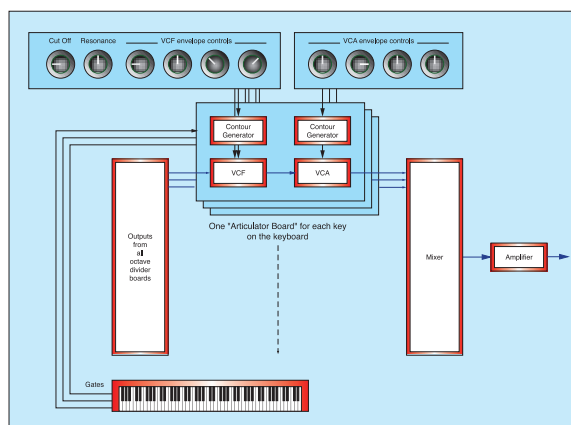

Figure 11: A true polysynth.
- articulate the *loudness* of each note correctly, there's still no way to make it articulate the individual *tone* (or brightness) of the notes. To do this, we must add a dedicated VCF and a second Contour Generator for each note, as shown in Figure 11 on page 84.
Let's finish this month's Synth Secrets by taking a brief look at two synthesizers that adopted this approach to polyphony. The first of these is the grandiosely titled Polymoog Synthesizer, a much maligned instrument that doesn't deserve the opprobrium that has been heaped upon it. Ignoring subjective views of its strengths (or lack thereof) the Polymoog has a unique architecture based on Figure 11. However, instead of providing user controls for the filters and amplifiers in each of the 'articulator' boards, it offers a handful of presets. This means that, when you press one of the buttons '1' to '8' in the centre of its control panel, you send predetermined CVs to the boards. Despite this minor limitation, the articulators still shape every note correctly. The Polymoog is a truly polyphonic synthesizer.
The important point here is that the PS3200 had all of its filters and amplifiers *before* its mixer, thus retaining true polyphony in all circumstances. Indeed, its architecture (notwithstanding a bucketful of extra facilities) is so similar to Figure 11 that we need no extra diagram to describe it.